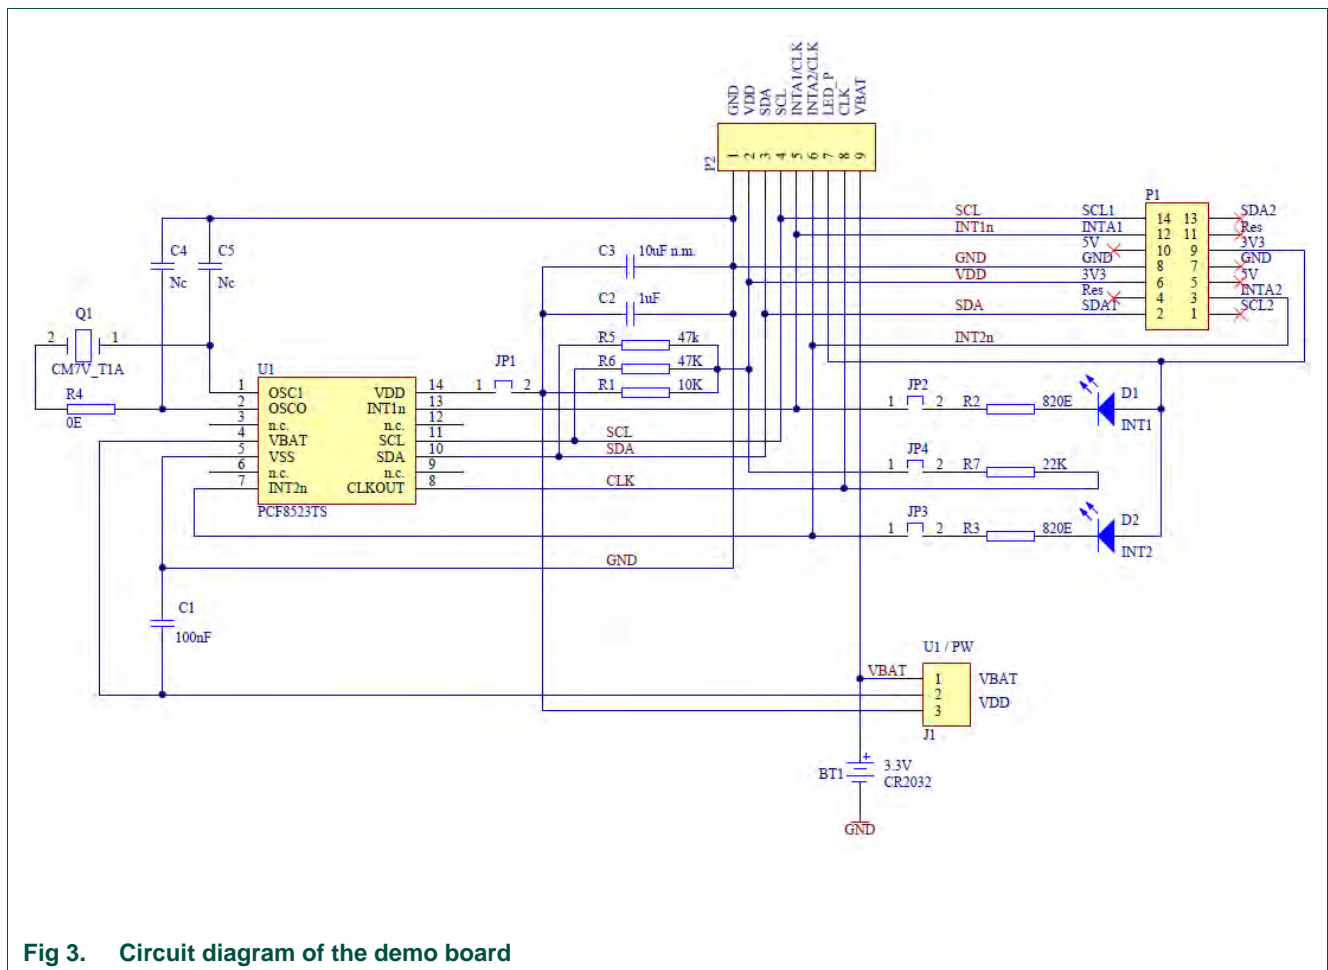
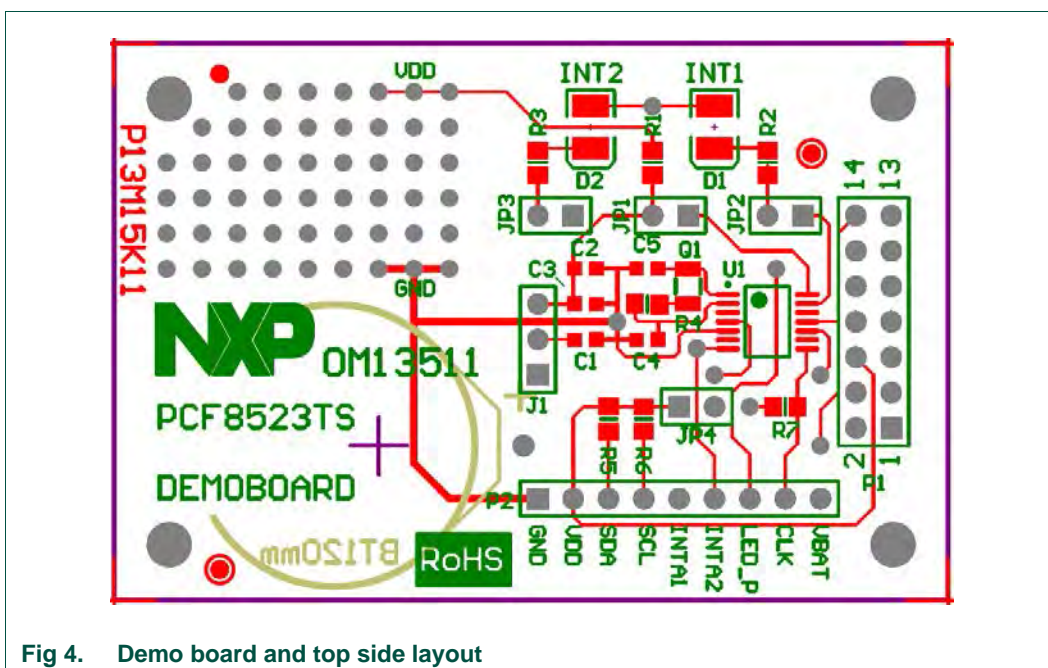

Fig 3. Circuit diagram of the demo board
Fig 4. Demo board and top side layout
- Position of the jumpers and connectors are found in the circuit diagram in Fig 3 and the layout drawing in Fig 4.